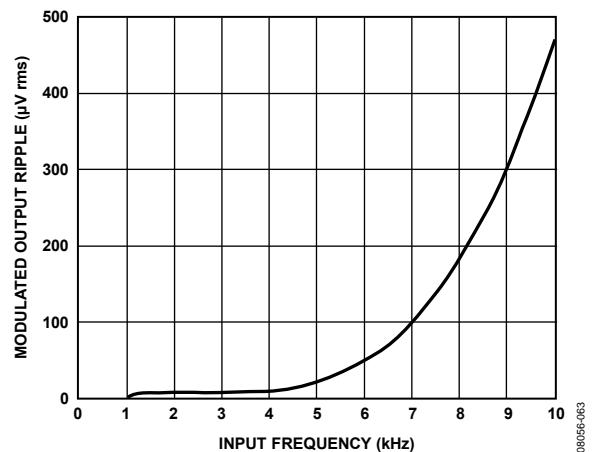

Figure 60. ADA4051-1/ADA4051-2 Modulated Output Ripple vs. Input Frequency
The remaining voltage ripple originates from two sources. The first type of ripple is due to the residual ripple associated with the initial offset of the Gm1. It is proportional to the magnitude of the initial offset and creates a spectrum at the chopping frequency ( $f_{CHOP}$ ). When the amplifier is configured as a unity-gain buffer, this ripple has a typical value of 4.9  $\mu$ V rms and a maximum of 34.7  $\mu$ V rms. The second type of ripple is due to the intermodulation between the high frequency input signal and the chopping frequency. This ripple depends on the input frequency ( $f_{IN}$ ) and creates a spectrum at frequencies equal to the difference between the chopping frequency and the input frequency ( $f_{CHOP} - f_{IN}$ ), as well as at frequencies equal to the summation of the chopping frequency and the input frequency ( $f_{CHOP} + f_{IN}$ ). The magnitude of the ripple for different input frequencies is shown in Figure 60.
- No effect on the desired input signal as long as its frequency is much lower than the chopping frequency shown in Figure 60